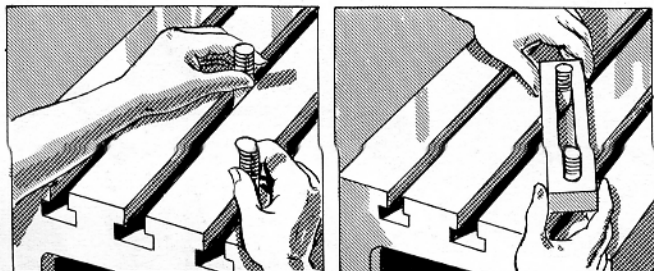

FIG. 171
1. Select one of the strips with an elongated slot. If the type strip shown in Fig. 171 is used, the slot through which the bolts pass may be utilized even when the strip is placed at an angle on the table.